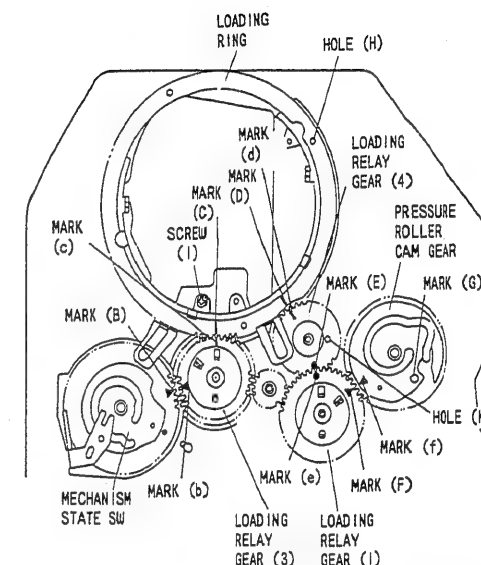

Fig. 3-2
3-2. Loading Gears and Loading Ring (Figs. 3-2, 3-3)
- 1) Align the markings of the loading ring and gears as shown in Fig. 3-2.
- ① Set the upper and lower loading rings to the state shown in Fig. 3-2. (Watch the guide roller fixing section.)
- ② Move the upper and lower loading rings so that holes (H) overlap each other.
- ③ If holes (H) overlap each other, the phase of the loading ring is correct.
- ④ If holes (K) overlap each other, the phase of the loading relay gear (4) is correct.